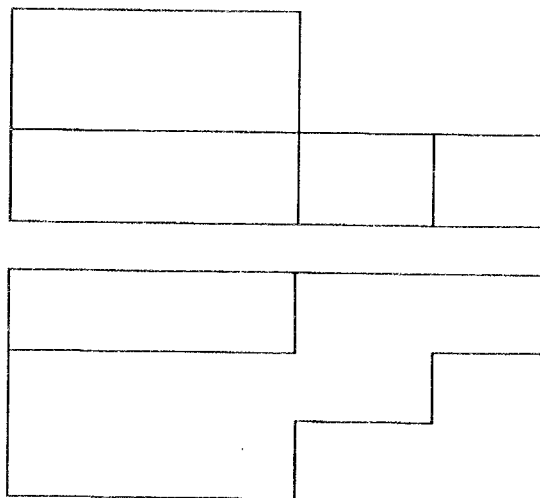

Figure 6
10. **Figure 6** shows two views of a block drawn in first angle project. In good proportion sketch the block in oblique projection. (6 marks)